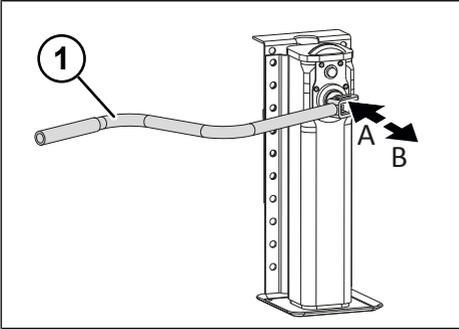

Fig. 5-5: Load speed and high speed of the rear brace
- ▶ Switch on high speed by pulling out the hand crank (see "Fig. 5-5: Load speed and high speed of the rear brace", pg. 24).
- ▶ Switch on load speed by pushing in the hand crank (see "Fig. 5-5: Load speed and high speed of the rear brace", pg. 24).
- ▶ Set to load speed by pushing in the hand crank (see "Fig. 5-5: Load speed and high speed of the rear brace", pg. 24).
- ▶ Set to high speed by pulling out the hand crank (see "Fig. 5-5: Load speed and high speed of the rear brace", pg. 24).